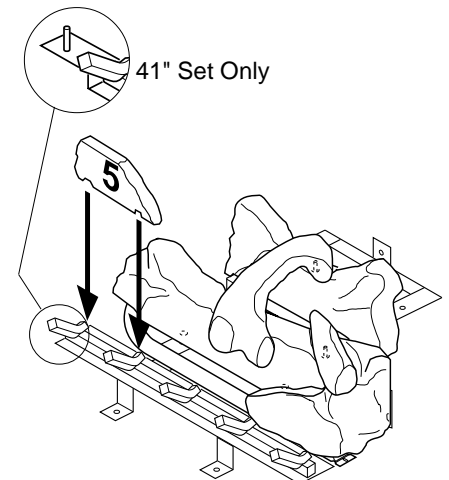

Figure 51 - Installing Log No. 5
5. Place log #5 (small log) onto the front left part of the grate making sure the notches fit over the prongs of the grate (and hole over pin on 41" set). See Figure 51.